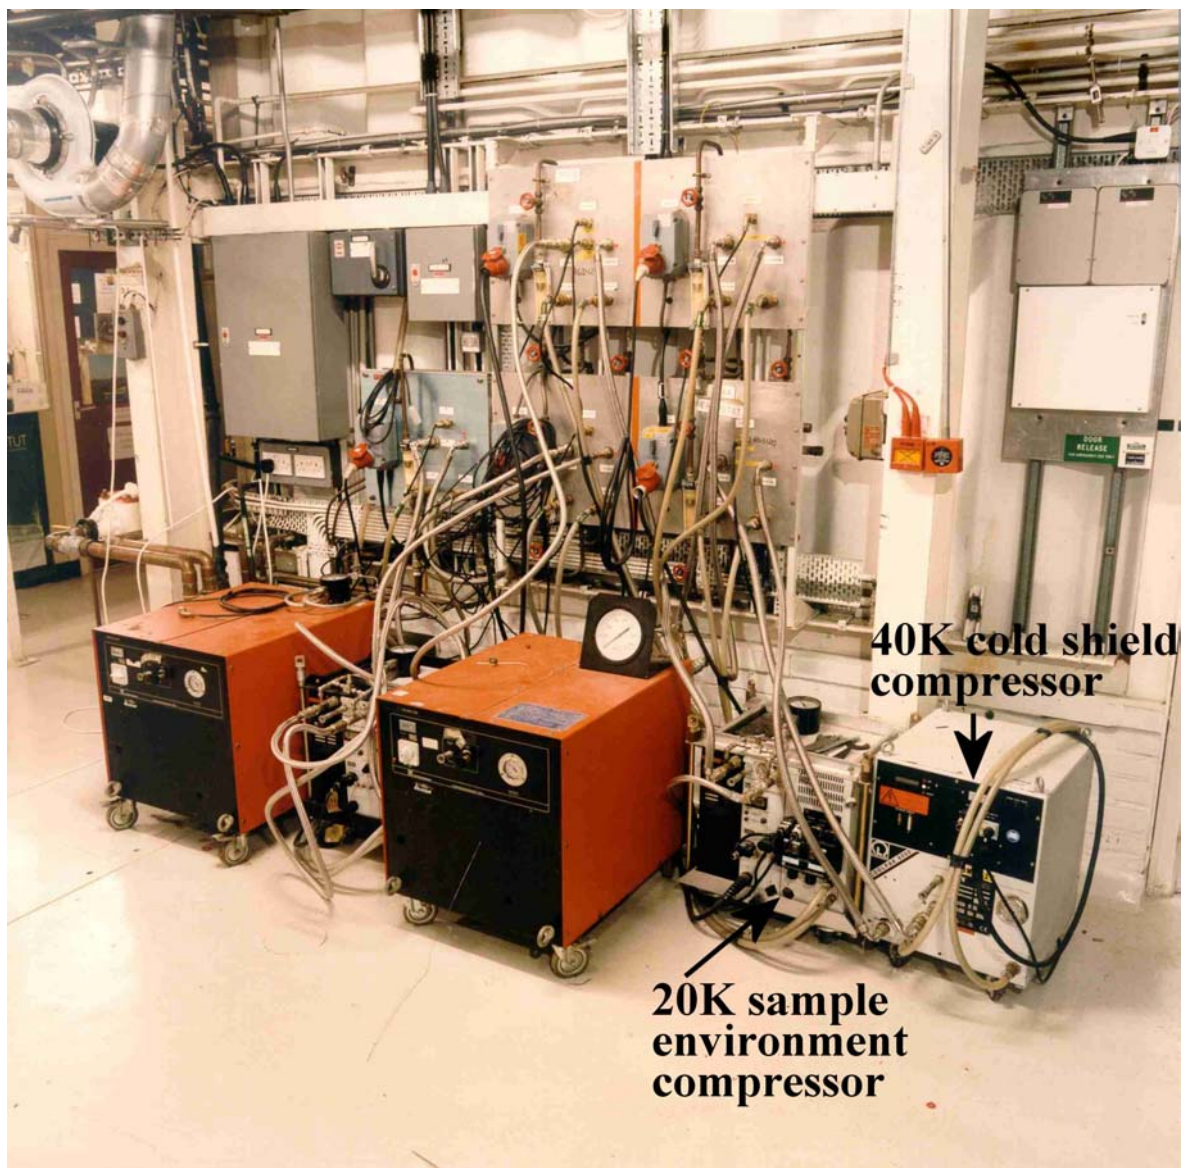

Figure 2.15: TOSCA CCR compressors inside the hall. Right: 40K cold shield compressor, left: 20K sample compressors.
2. Switch off the two CCR compressors labelled TOSCA on the ground floor by the outer wall of R55 *inside* the hall, *Figure 2.15*. **DO NOT TOUCH** the five compressors that are outside the hall, **Figure ???**.